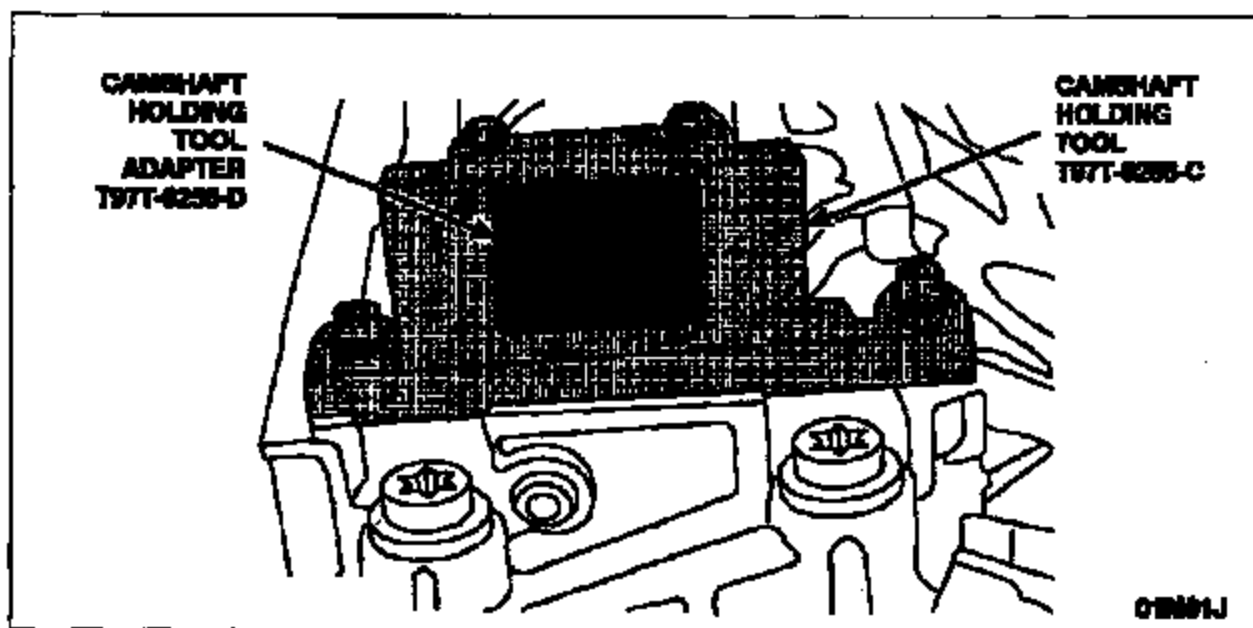

FIGURE 9
13. Position the camshaft timing slots below the centerline of the camshaft to allow proper installation of Camshaft Holding Tool T97T-6256-C and Adapter T97T-6256-D onto the cylinder head. Then install both tools onto the cylinder head. See Figure 9.